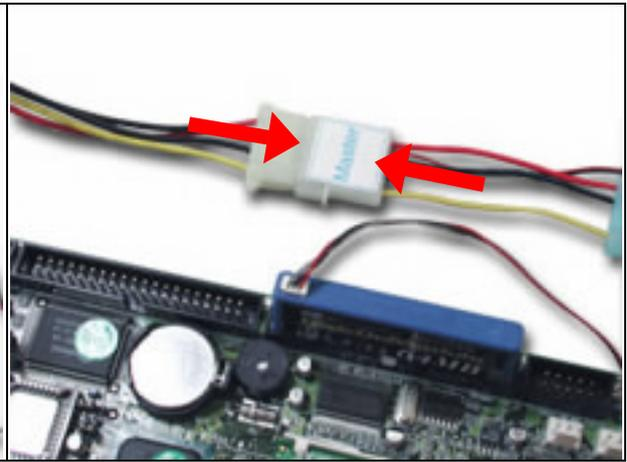

*Fig. 2-16 Insert DOM into IDE interface*
1. Insert the DOM (*Fig. 2-16*) into the IDE interface (*Fig. 2-17*).